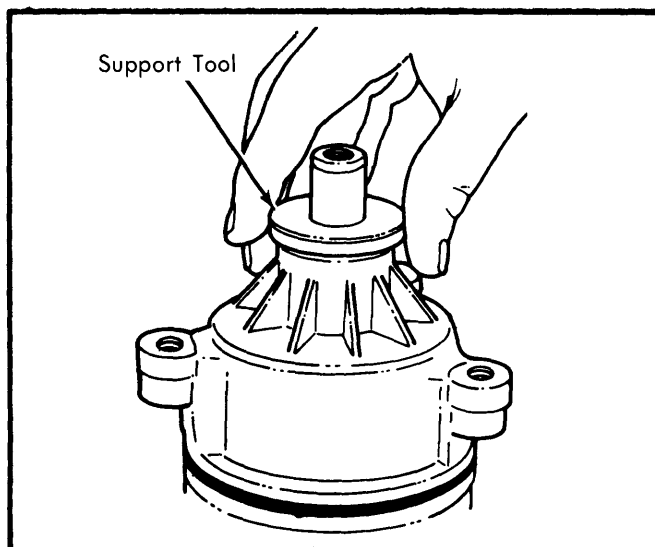

Fig. 1 Installing Lower Support Plate Tool
3) Remove outlet fitting, flow control valve and spring from pump. Remove pump reservoir. Place lower support plate tool (T78P-3733-A2) over rotor shaft. See Fig. 1.